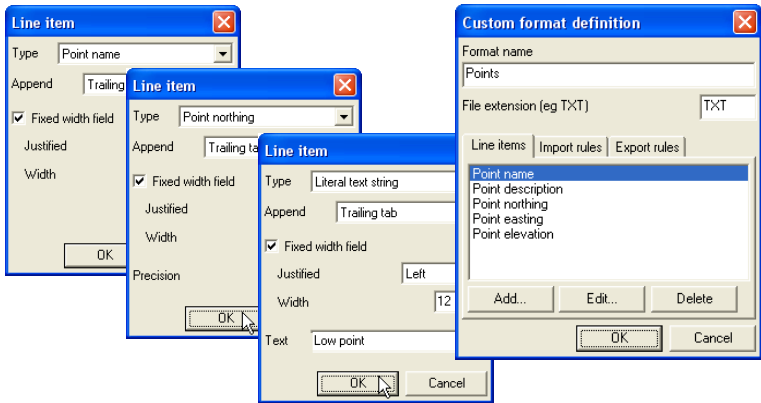

Figure 2-2. Add Line Items to Format
3. Select a line item *Type* and enter the desired parameters for the new format, then click **OK**. The available parameters depend on the type of line item selected (Figure 2-2 on page 2-3).
- Repeat step 3 for each line item to add the desired number of line items (Figure 2-2).